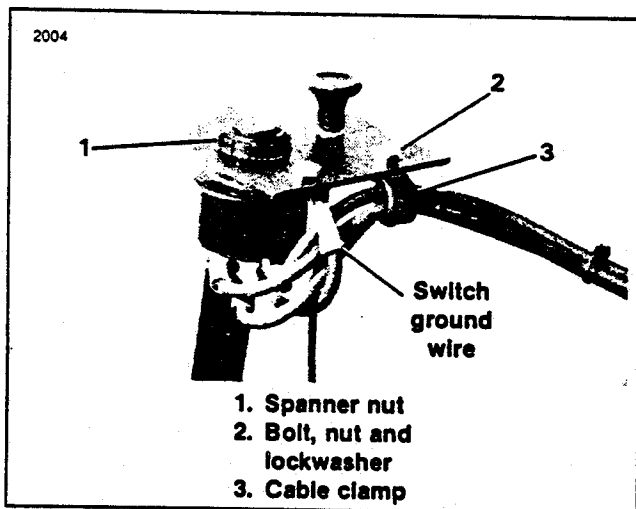

Figure 8-3. Removing Directional Key Switch
2. See Figure 8-3. Remove spanner nut (1), bolt, nut and lockwasher (2) from cable clamp (3).
3. See Figure 8-3. Route directional key switch wires through cable clamp (3) and fasten with bolt, nut and lockwasher (2).
4. See Figure 8-3. Fasten directional key switch ground wire (A) to switch tower. Install switch using spanner nut (1).